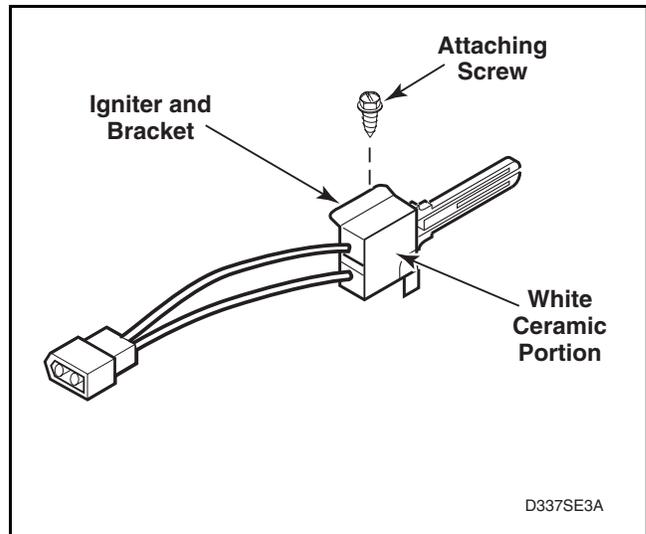

Figure 50
- f. Meter should read between 45 – 200 Ohms. Refer to *Figure 50*.